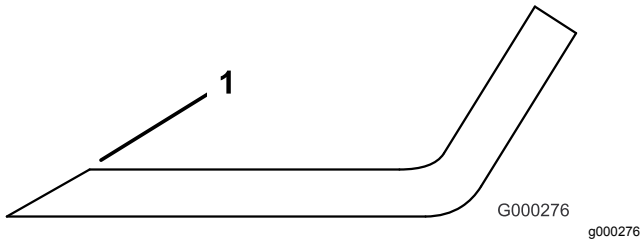

Figure 112
3. Examine the cutting edges of all of the blades. Sharpen the cutting edges if they are dull or nicked. Sharpen only the top of the cutting edge and maintain the original cutting angle to make sure of sharpness (Figure 112). The blade will remain balanced if the same amount of metal is removed from both cutting edges.